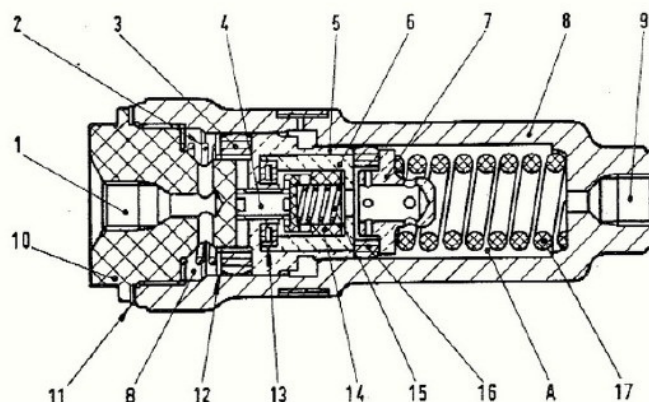

Fig. 120. - Longitudinal section of pressure regulating cylinder.
A pressure regulator (fig. 120) is fitted in the rear brake hydraulic circuit to reduce the pressure to rear wheel cylinders.
The device (2, fig. 5) consists mainly of a body in which a two-diameter piston slides. The smaller diameter end of body forms a high-pressure chamber (A, fig. 120), while the larger diameter end forms a low-pressure chamber (B).